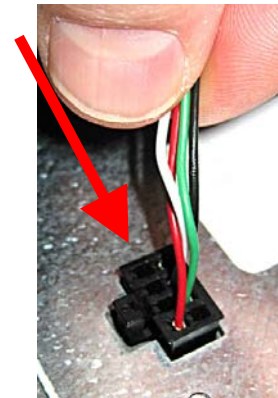

Figure 84
86. Pivot the MIB board down and attach the 8-pin male connector from step 84, to the 8-pin female connector on the rear of the MIB board (see Figure 84).